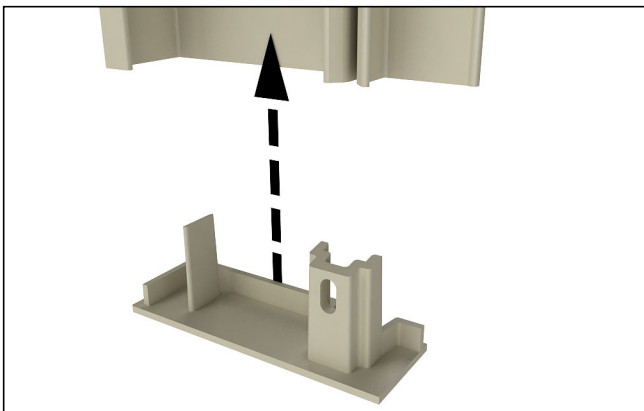

Figure 58
3. Attach modified end caps with supplied screws to the bottom of the jamb pieces. See *figure 58*.